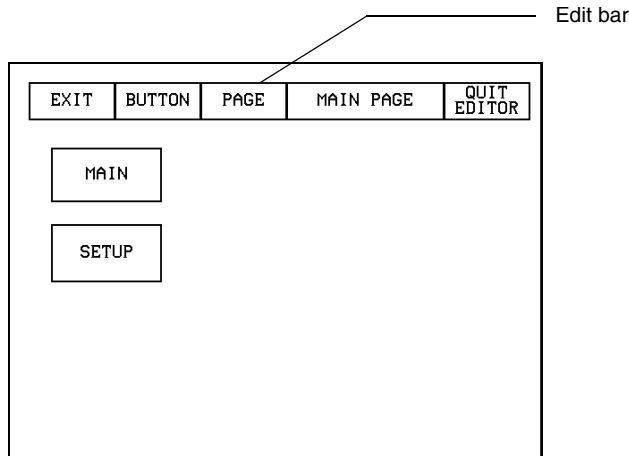

FIG. 14 Main page with Edit bar
7. Press EDIT to open the Edit bar. The BUTTON and PAGE options, in the Edit bar, (FIG. 14) are used to design and modify button and page settings.